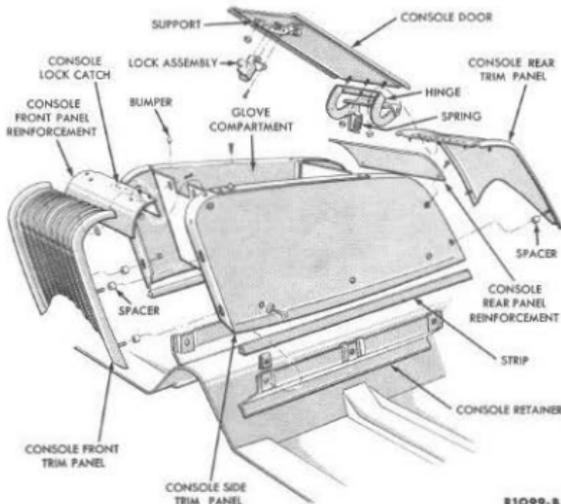

FIG. 98—S-22 Console Installation
The S-22 console assembly is shown in Fig. 98. The glove compartment liner must be removed for access to the hinge and front and rear console panels.
1. Open the console door and remove the screws and washers retaining the glove compartment liner and lock catch (Fig. 98).
5. Remove the console side trim panel retaining screws from the floor panel bracket (Fig. 98) using a small ratchet wrench such as a General 807X Wrench. Remove the side trim panel from the front and rear finish panel reinforcements, and remove the panel.